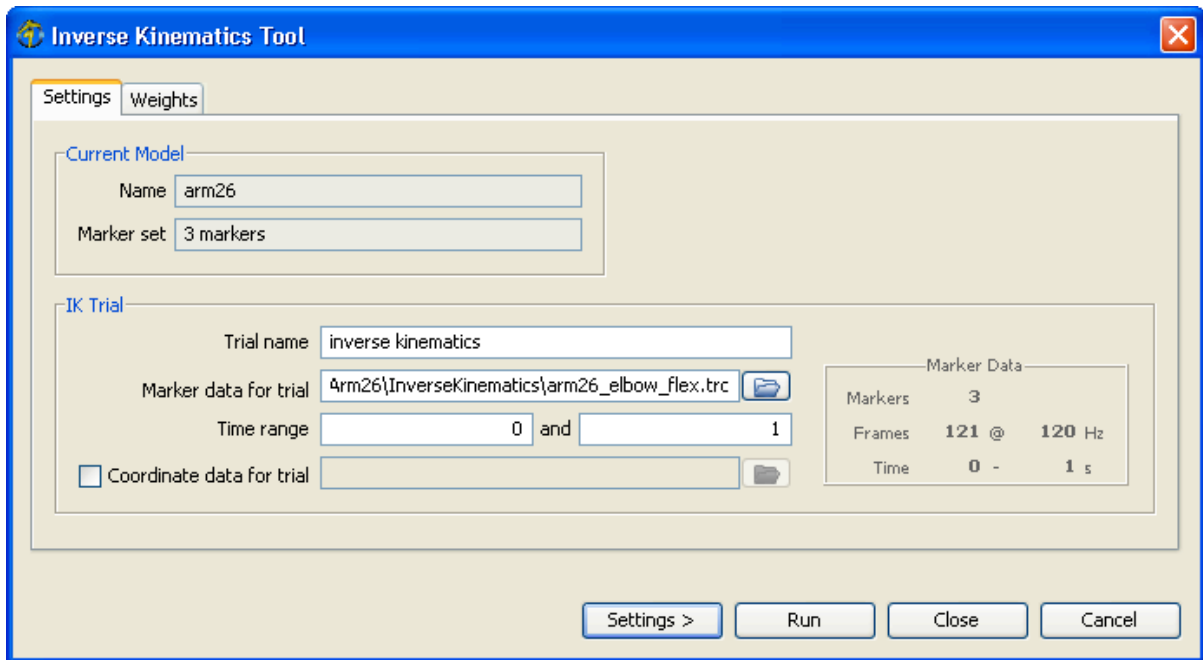

Figure 2-2: Inverse Kinematics Tool Dialog
To launch the Inverse Kinematics Tool, select **Inverse Kinematics...** from the **Tools** menu. The **Inverse Kinematics Tool** dialog (Figure 2-2) like all other OpenSim tools, operates on the *Current Model* open and selected in OpenSim (e.g., *arm26*). Inverse kinematics requires that a marker set is associated with the model and the number of markers is reported (e.g., *3 markers*). The **IK Trial** section specifies the experimental marker data that the Inverse Kinematics Tool will match with the current model. A *Trial name* can be associated with the trial to uniquely identify the resultant motion. The *Marker data for trial* field must contain the path to the marker data (in *.trc* format) and OpenSim will report the information it recognizes from the file such as the number of markers, the number of frames and sampling frequency as well as the start and end times of the data set in the **Marker Data** pane. Any subset of the time range can be specified for performing inverse kinematics in the *Time range* field, but by default the complete time range is specified. If the *Coordinate data for trial* flag is checked, then the Inverse Kinematics Tool will require coordinate values specified in a motion (*.mot*) file to be loaded.
2. **Open Inverse Kinematics Tool.** To open the tool (Figure 2-2), select **Inverse Kinematics...** from the **Tools** menu.